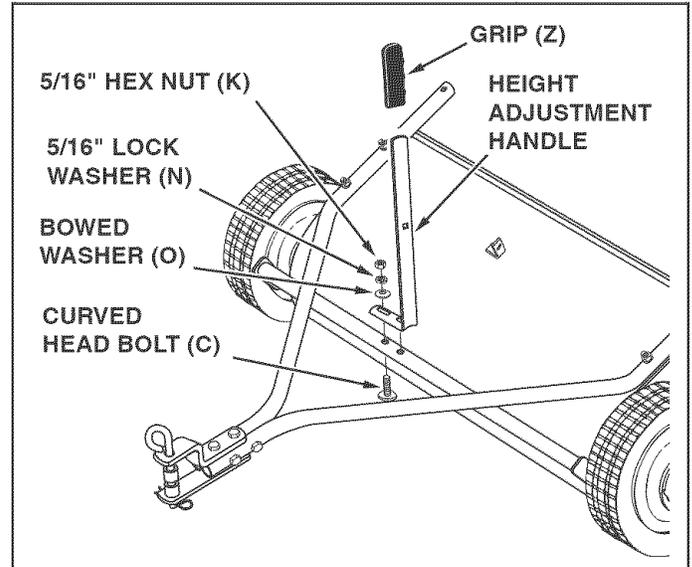

FIGURE 10
STEP 8: (SEE FIGURE 10 AND 11)
- Assemble the height adjustment handle to the height adjustment tube. Use two curved head bolts (C), bowed washers (O), 5/16" lock washers (N) and 5/16" hex nuts (K). **Do not tighten yet.**
- Assemble the grip (Z) onto the height adjustment handle.